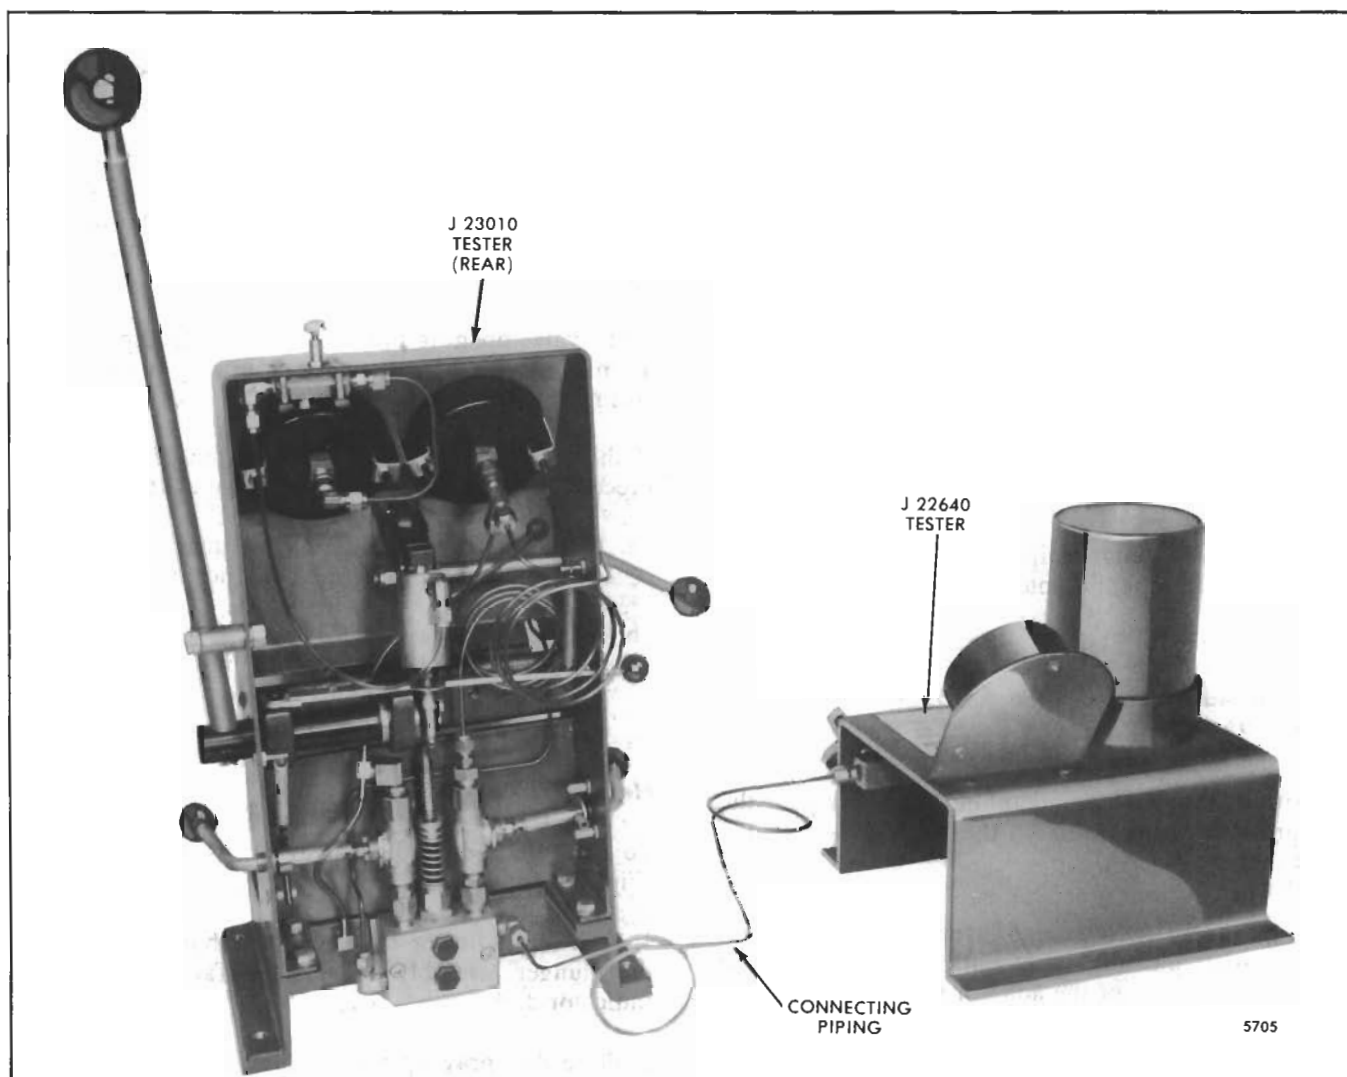

Fig. 17 - Injector Needle Valve Tester J 23010 with Auxiliary Tester J 22640
1. Connect the pipe from auxiliary tester J 22640 to the rear of the J 23010 tester at the connection located near the bottom of the tester (Fig.17).